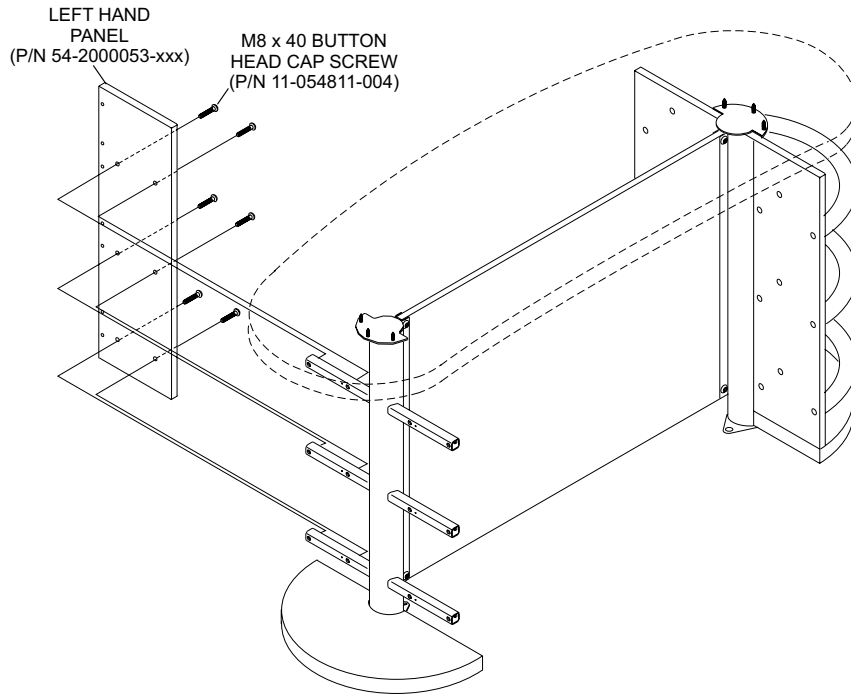

Figure 5
1. Secure new left hand wood panel (P/N 54-200053-xxx) to trash can support with M8 x 40 button head screws (P/N 11-054811-004). Refer to *Figure 5*.